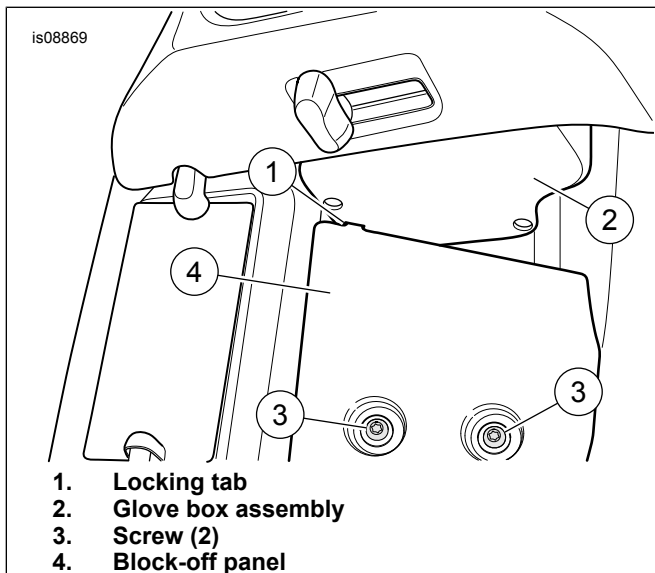

Figure 2. Locking Tab and Block-off Panel
3. See Figure 2. **From the front:** Remove screws (3), block-off panel (4) and glove box (2).